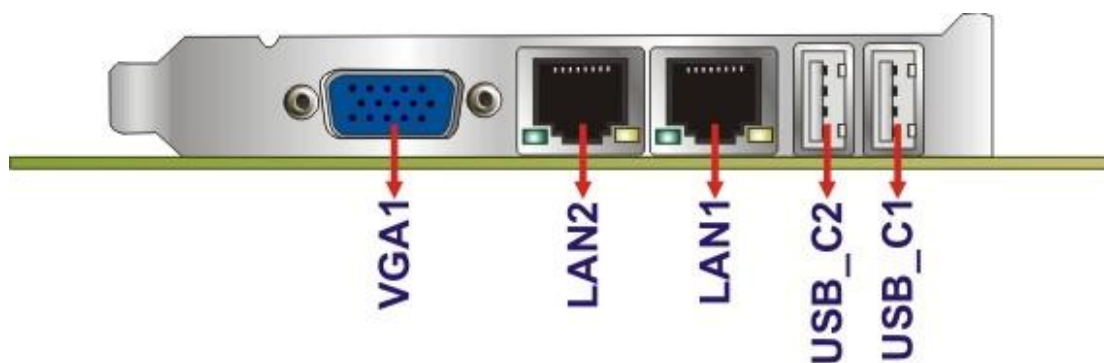

Figure 3-23: External Peripheral Interface Connector
- CN Location:** See Figure 3-23
CN Location: See Figure 3-23